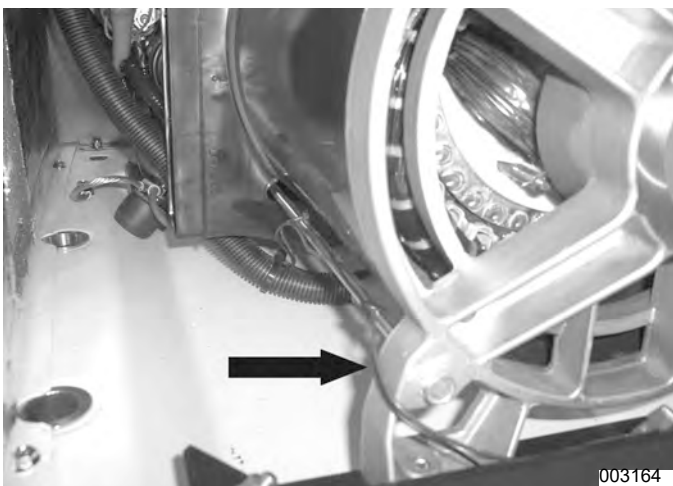

Figure 5-52.
20. **Remove Brush Wires:** See Figure 5-52. Use a side cutters to remove the tie wraps securing the brush wires to the outside of stator.